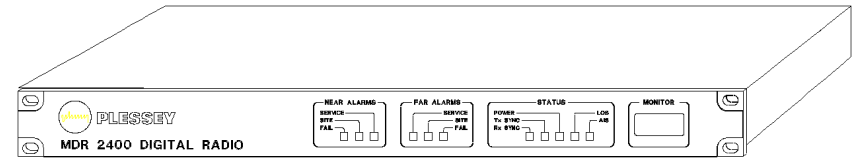
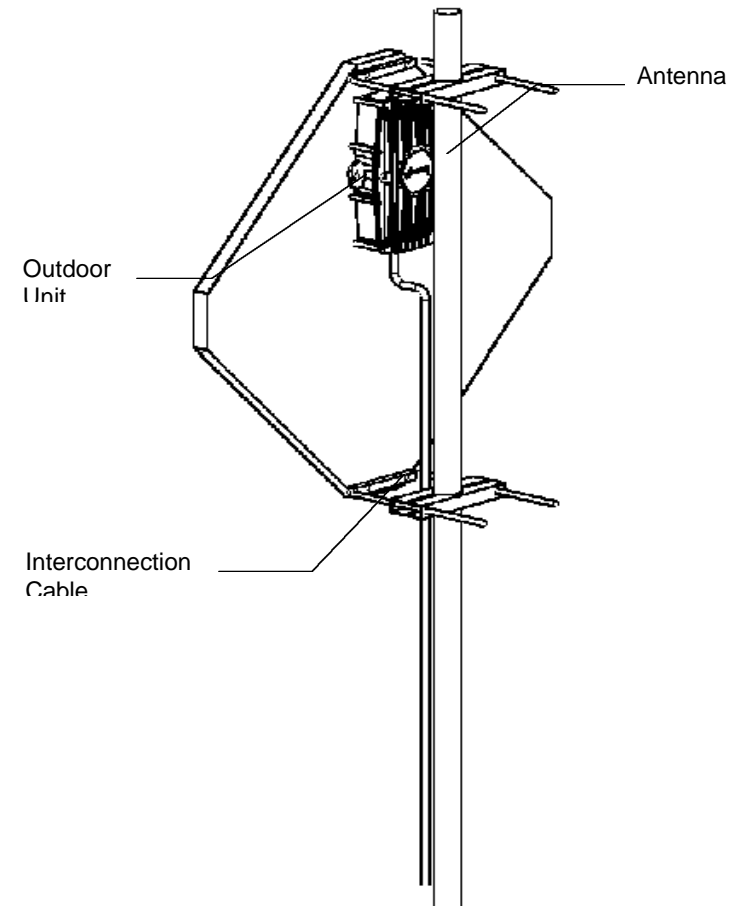
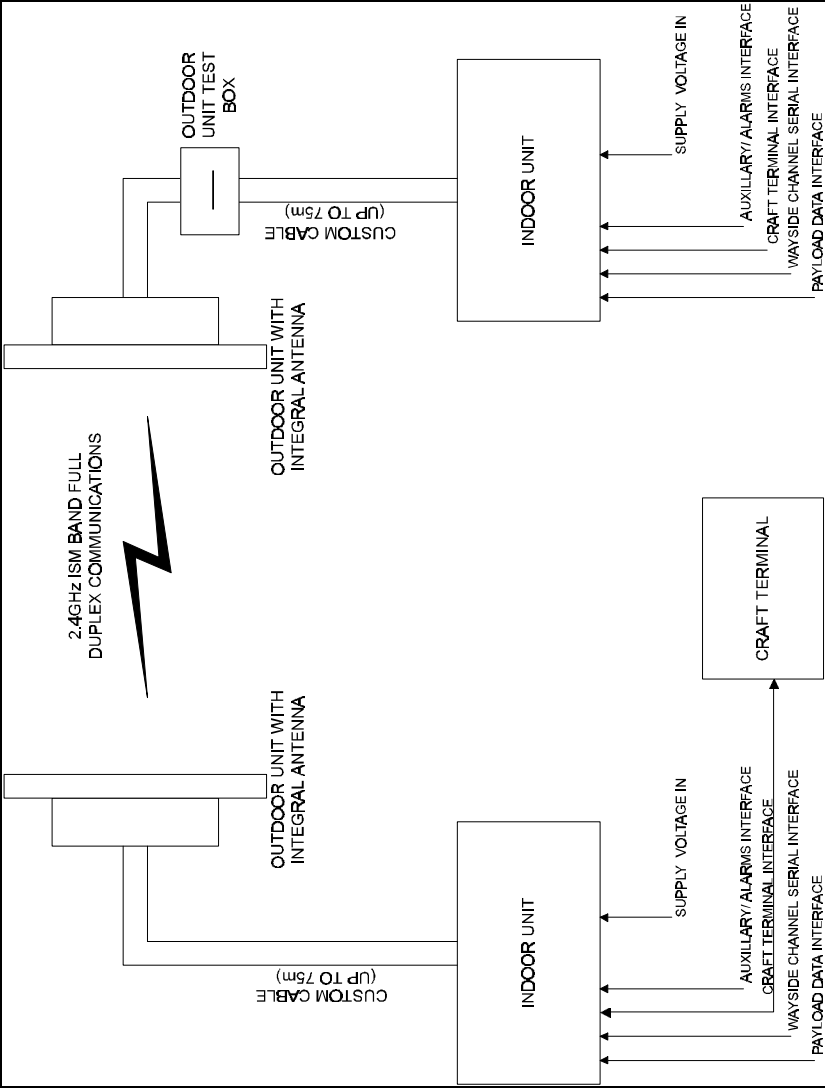

Figure 1. μLink Indoor Unit.
Figure 2. μLink Outdoor Unit and Antenna.
Figure 3. System Overview Block Diagram.
A μLink digital radio relay link (DRL) consists of at least one complementary pair of μLink stations that may be extended over longer distances by linking further station pairs in a multiple hop configuration. A single μLink station comprises an Indoor Unit (Figure 1), an Outdoor Unit and Antenna (Figure 2). The Indoor Unit (IU) and Outdoor Unit (OU) are interconnected by a custom cable. Figure 3 is a block diagram of an μLink DRL.